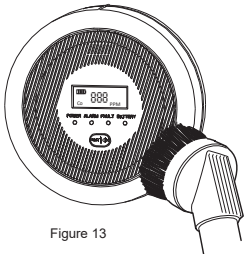

Figure 13
- 4)Clean the detector monthly with home vacuum cleaner along with a soft brush (refer to Figure 13) .